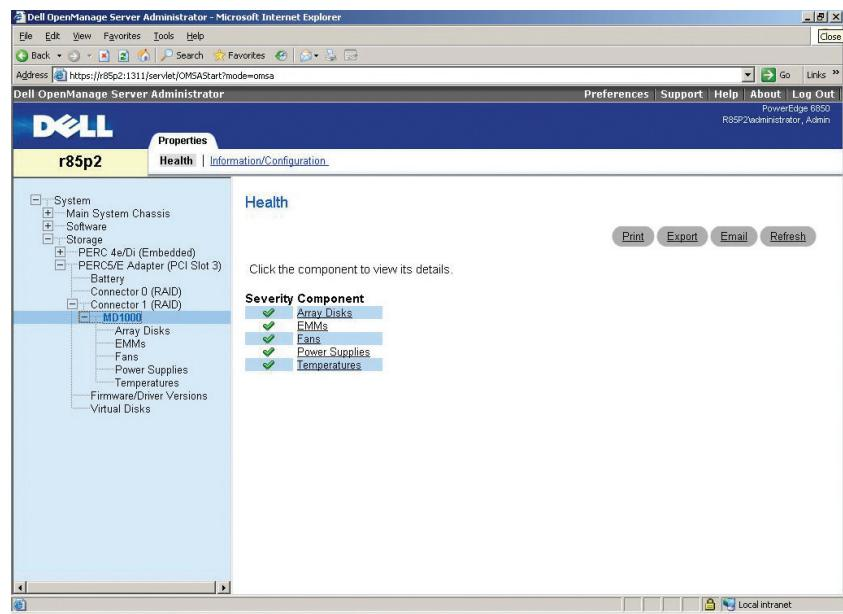

Figure 7. Enclosure health screen in Dell OpenManage Server Administrator
- Enclosure health:** Status of array disks, management modules, fans, power supplies, and temperature (see Figure 7)